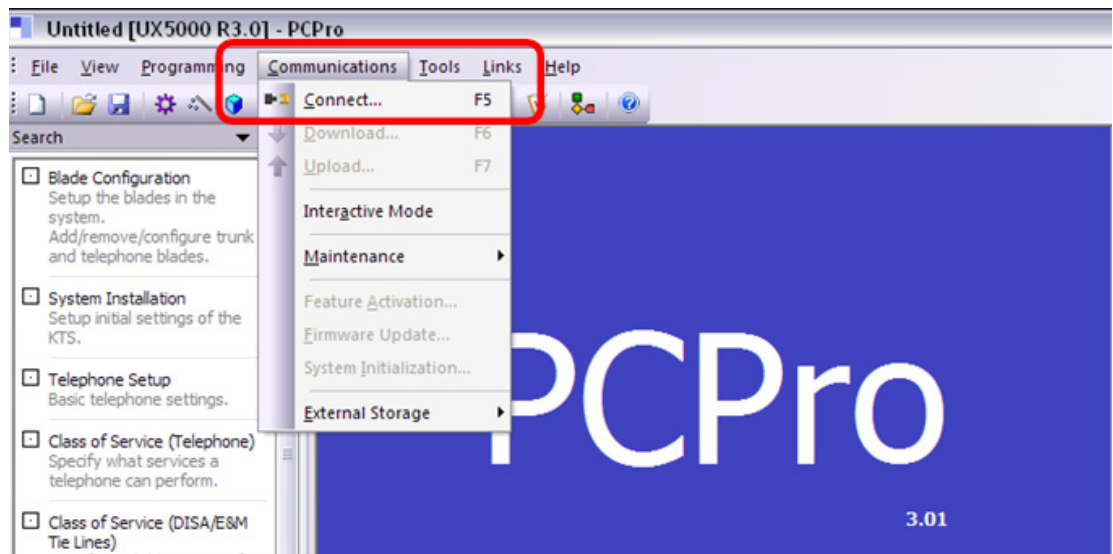

Figure I-1 UX5000 Connection
1. Run UX5000 PCPro and select **Communications > Connect** to connect to the UX5000 system, Figure I-1 - UX5000 Connection.